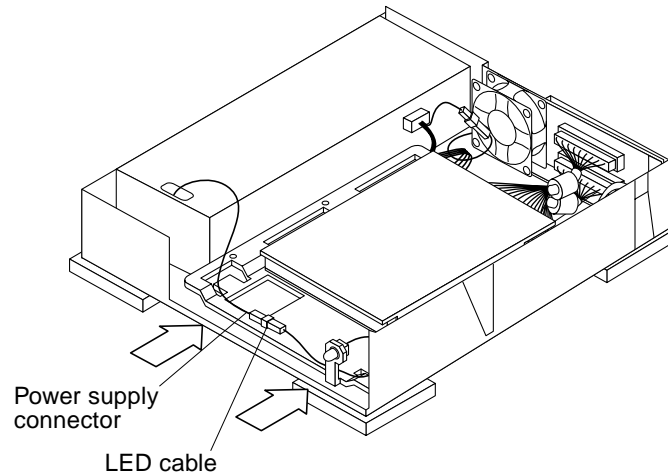

Figure 2-13 Connecting the Power Supply Connector to the LED
10. Slide the disk drive assembly completely into the base, making sure the assembly engages the retaining clip on the interior floor of the DDP. See Figure 2-13.
See Figure 2-13.